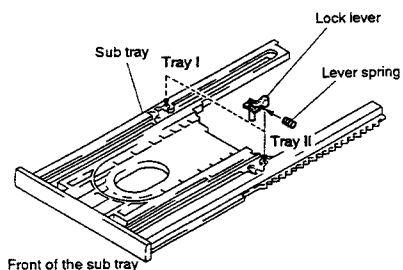

Fig. 2-12
- (1) As shown in Fig. 2-12, attach the lock lever and the lever spring to the sub tray (the two same forms), which must be placed to the left hand of the sub tray, if the sub tray is attached with the tray I, and which must be placed to the right hand of it, if it is attached with the tray II, looking from the front of the sub tray.